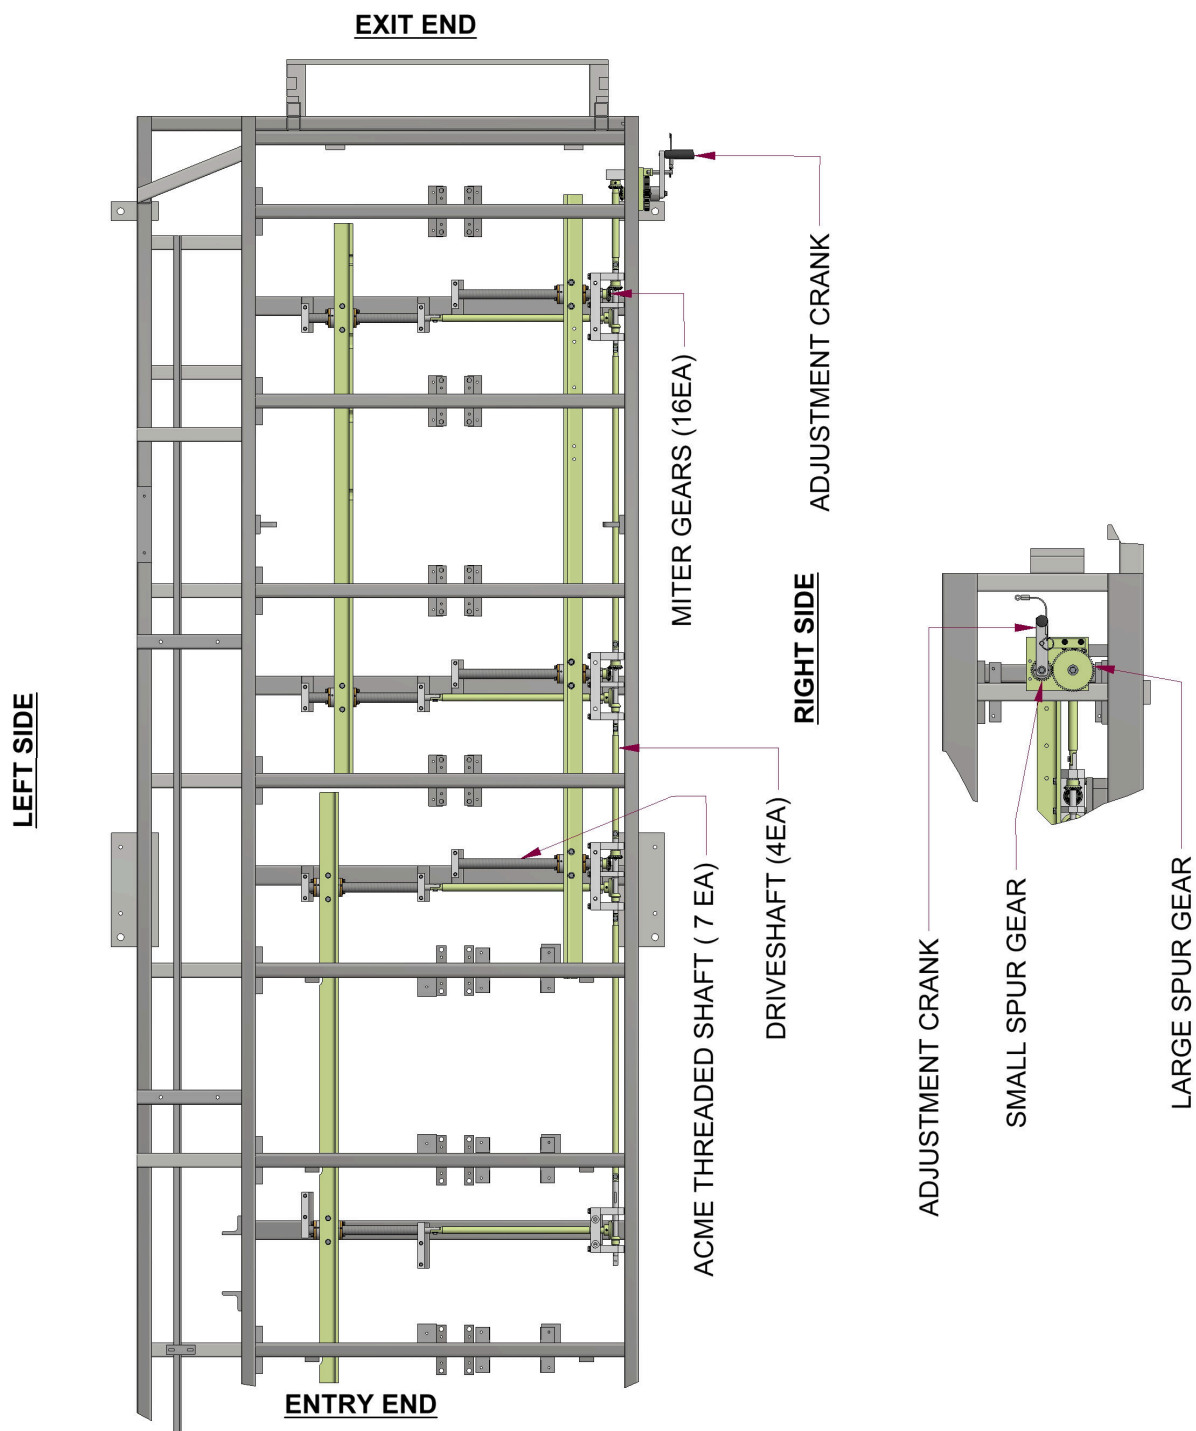

Figure 3: Acme Shafts and Width Adjustment
8. Lubricate 7 Acme Shafts (Figure 3 on page 7) with Spray Lube as needed.
9. Lubricate Mitre-Gears (Figure 3 on page 7) on ends of Acme Shafts with Spray Lube as needed.